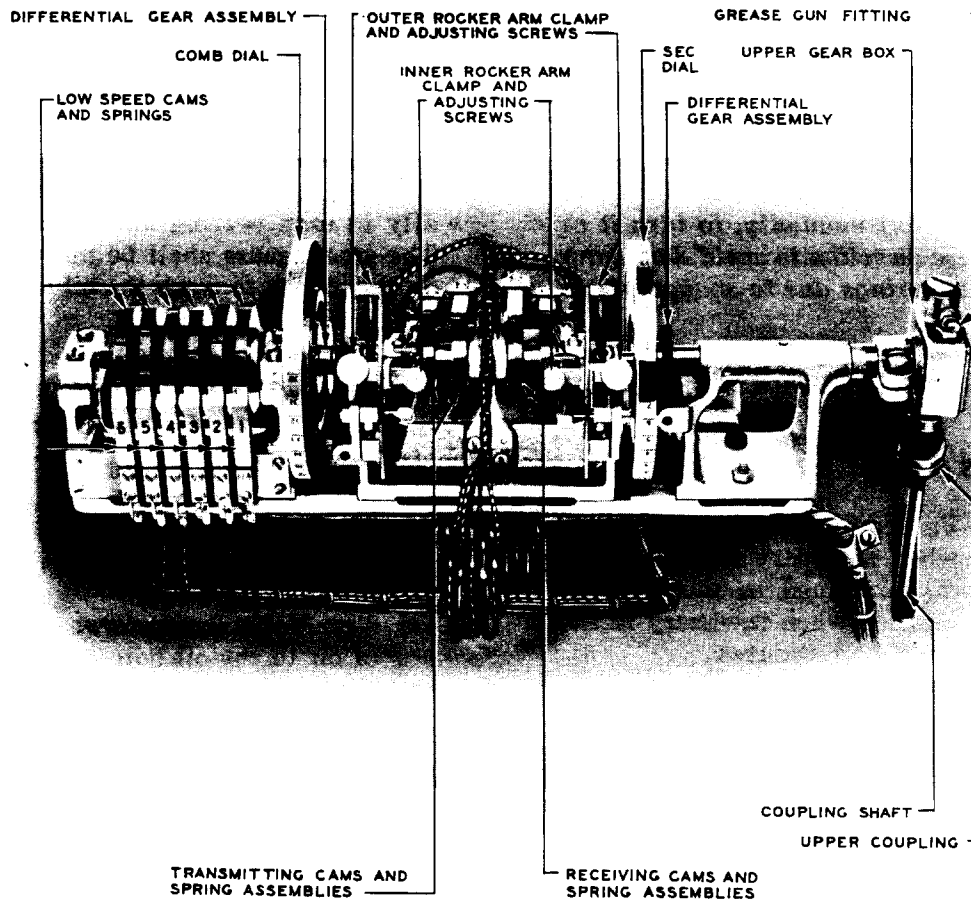
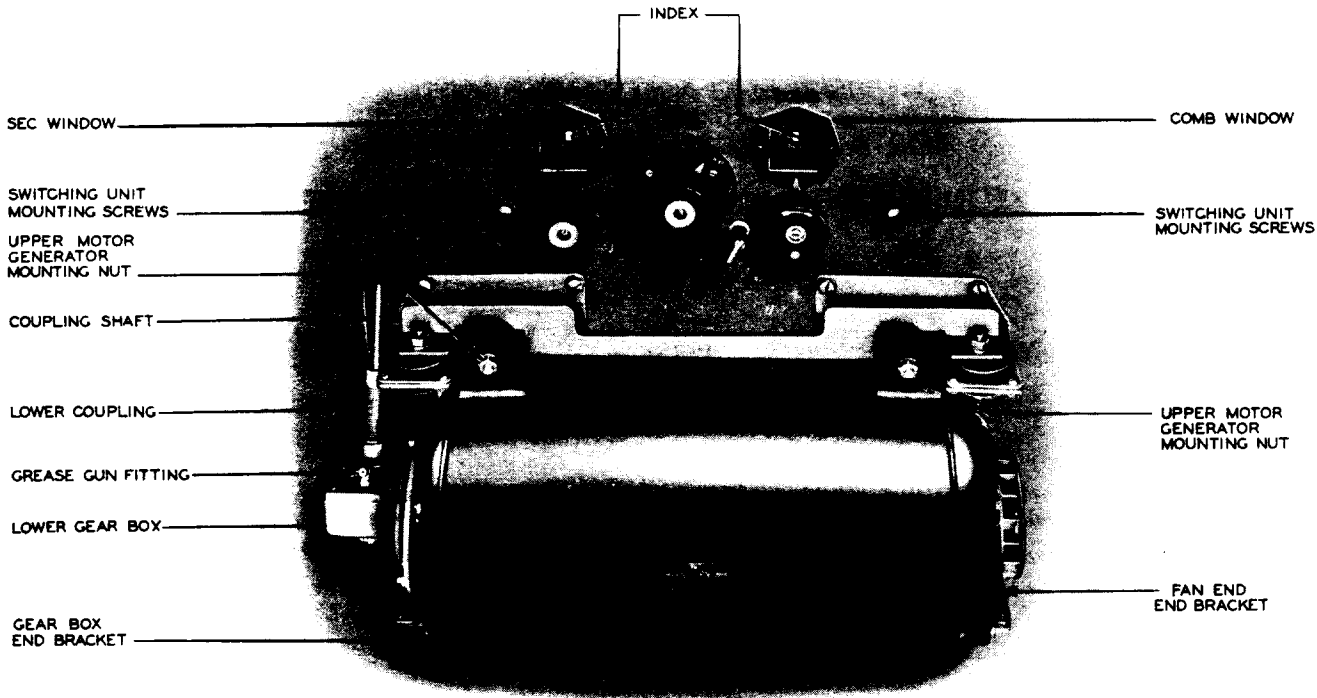

Fig. 1 - D-159393 Cam Switching Unit
Fig. 2 - Motor Generator
1.01 This section covers the D-159393 cam switching unit, Fig. 1, and associated motor generator, Fig. 2, used in the A3 and A5 privacy systems.